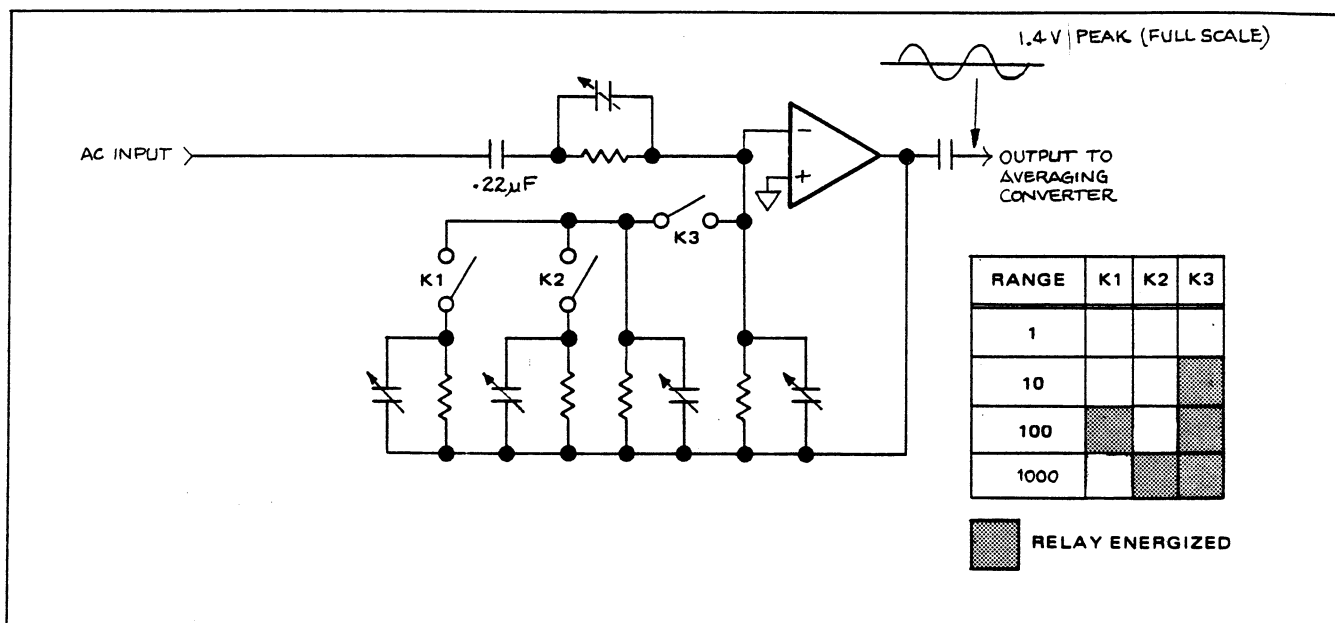

Figure 5.21 - Scaling Amplifier
5.3.5.9.2 *Scaling Amplifier.* The Scaling Amplifier (Figure 5.21) is configured as an AC coupled inverting operational amplifier. The input signal is routed through C17 to the range switching network. The range switching circuitry provides signal attenuation in the 10 volt, 100 volt and 1000 volt ranges. The table in Figure 5.21 details the relay closures for each range.